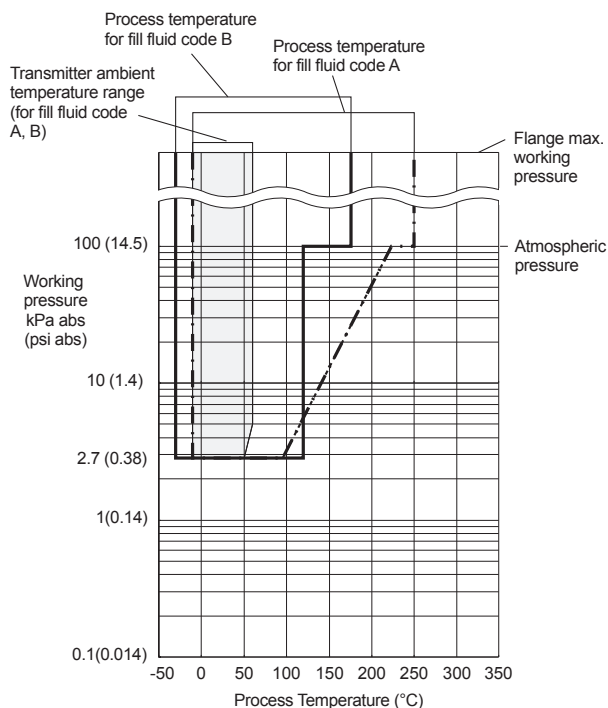

Figure 1-1. Working Pressure and Process Temperature (Fill fluid: silicone oil for general use)
For atmospheric pressure or below, see figure 1-1 and 1-2.
*1: See figure 1-1 and 1-2 ‘Working Pressure and Process Temperature.’